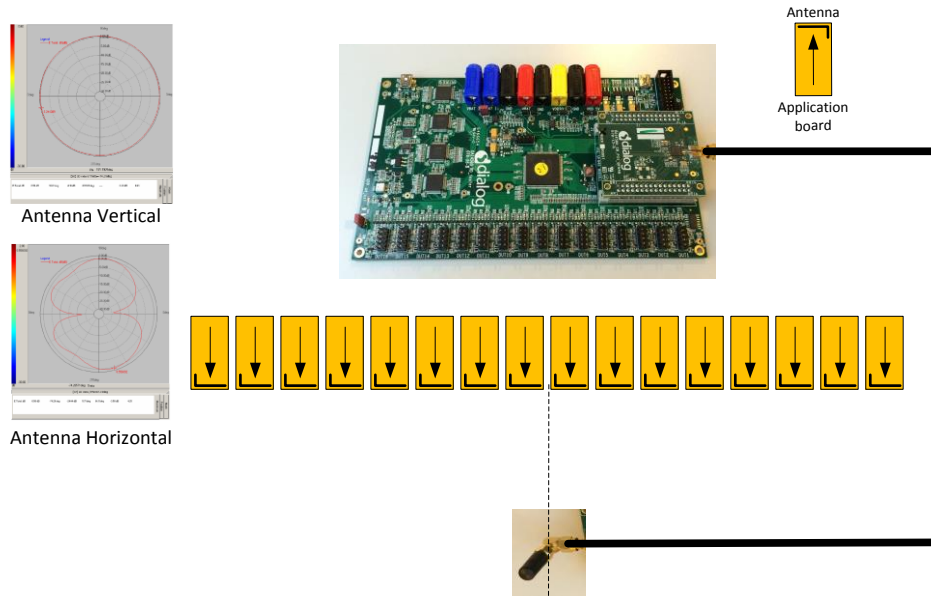

**Figure 132: Possible Solution of Antenna on Cable and Fixed Radius of DUTs to Antenna**
- A vertical GU antenna has different characteristics from a horizontal one. See Figure 132.